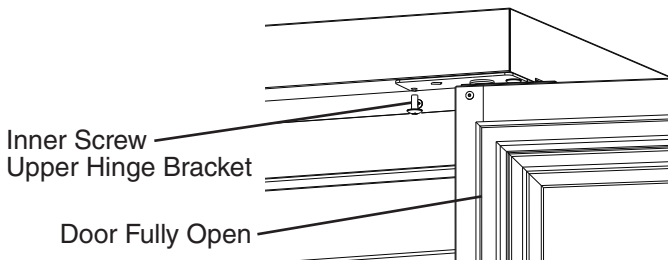

Fig. 8
- 2) Open the door to the fully open position, then remove the inner screw from the upper hinge bracket. See Fig. 8.